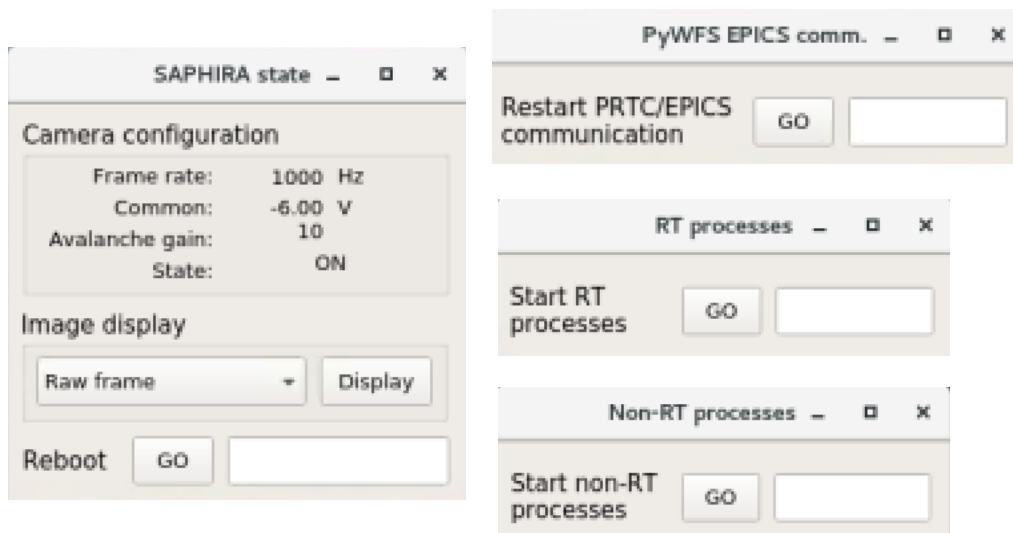

Figure 21: GUIs for PyWFS processes.
The status will be green if the camera is running, yellow if it is in the process of setting up and red if the camera has been shut down or if the frame is corrupted. The More button opens the SAPHIRA state GUI (see FIGURE 21) which:
If EPICs communication with the PRTC fails the status will be red. To restart the communication, click the More button and use the PyWFS EPICs comm. GUI (FIGURE 21).
If any of the real time (RT) processes fail this status will be red. To restart use the RT processes GUI (FIGURE 21), accessed through the More button.
If any of the non-RT processes fail this status will be red. To restart use the Non-RT processes GUI (FIGURE 21), accessed through the More button.